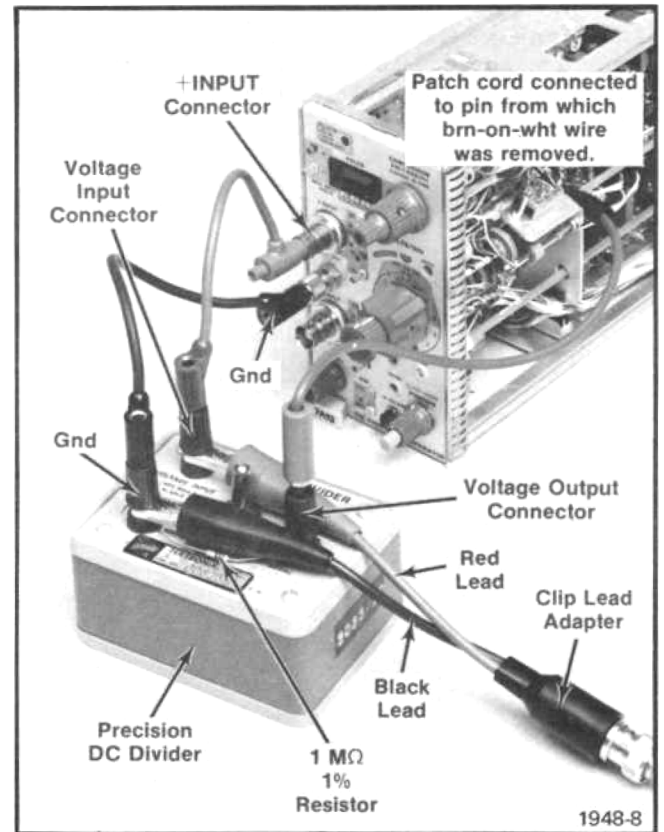

Fig. 5-5. Closeup view of the Precision DC Divider interconnections to the 7A13.
a. Test equipment setup, for this step is shown in Fig. 5-5.
c. Connect a 6-inch patch cord from the 7A13 + INPUT connector to the Precision DC Divider Voltage Input connector (see Fig. 5-5).